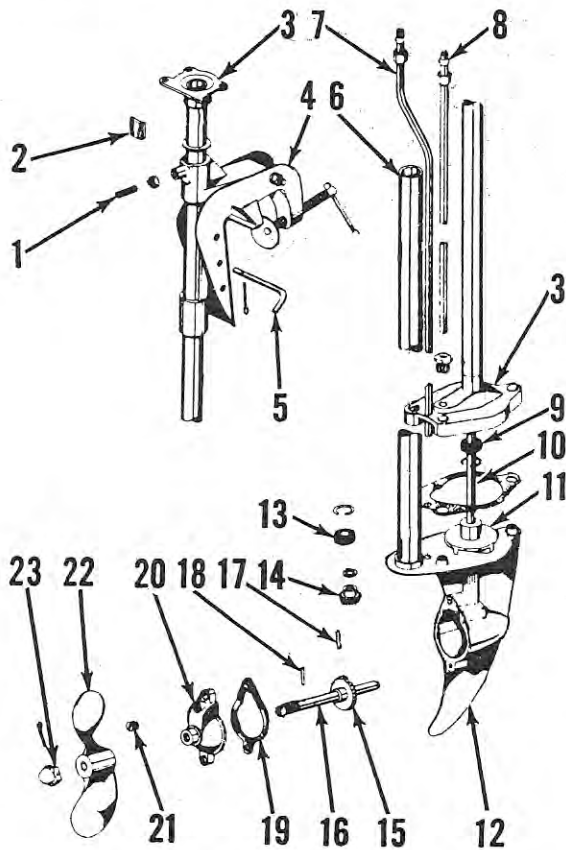

Fig. N3—Exploded view of Neptune lower unit, gear case and associated parts.
An impeller type water pump is located on the lower unit drive shaft just above the gearcase. Refer to Fig. N3. Make sure that water inlet and water tubes are open and clean. Disassembly of water pump requires disassembly of lower unit.
PROPELLER AND DRIVE PIN. The two blade propeller has a diameter of 6 inches and a pitch of 5 inches. Refer to Fig. N3. Propeller is retained to shaft by a cap nut (23) and cotter pin, and is driven by a $\frac{3}{8}$ x 1-inch bronze shear pin (18). Extra shear pins should be carried.
OVERHAUL. Most service on the lower unit can be performed by removing gearcase rear cover (20—Fig. N3); or by removing the gearcase lower housing (12). The water pump impeller (11) is retained to drive shaft by a drive pin.